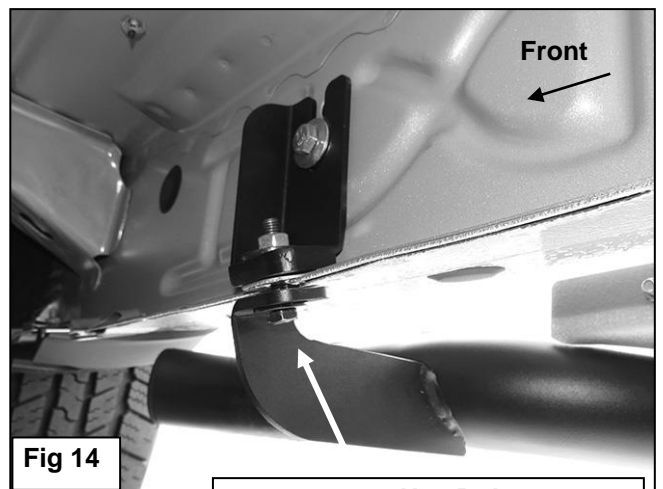

Fig 14
8. Move to the front mounting location with the Front Upper Bracket, (**Step 6**). Insert (1) 8mm x 40mm Hex Bolt with (1) 8mm STD Flat Washer up and through the bracket on the Running Board, the mounting tab and the Upper DEF Bracket. Slide a (1) 8mm Large Flat Washer and (1) 8mm Nylon Lock Nut over the Hex Bolt, (**Figure 14**). Do not tighten hardware at this time.